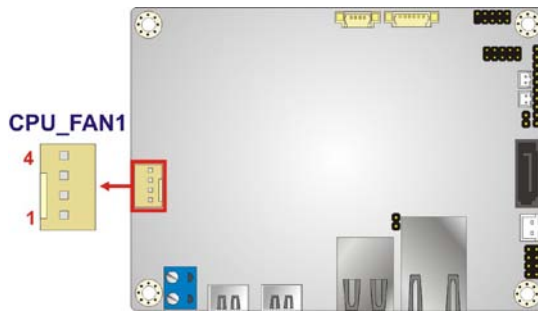

Figure 3-9: CPU Fan Connector Location
- CN Location: See **Figure 3-9**